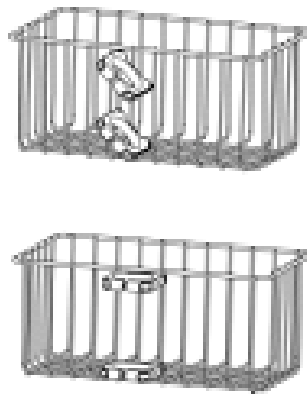

Figure 11: GCX Utility Basket
- GCX Utility Basket. See Figure 11 on page 109.
An optional GCX utility basket is available from Nellcor for the N-595 pulse oximeter. See Figure 11 on page 109.